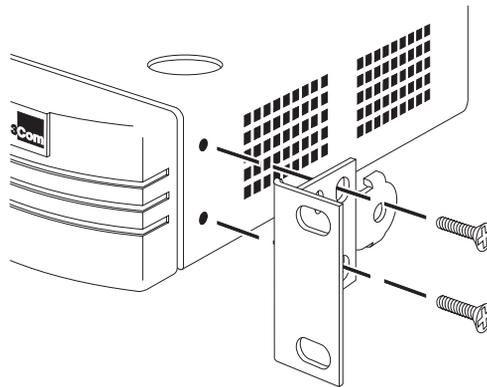

Figure 3-2 Locating the Brackets for Rack Mounting
- 2 Locate a mounting bracket over the mounting holes on one side of the hub, as shown in Figure 3-2.